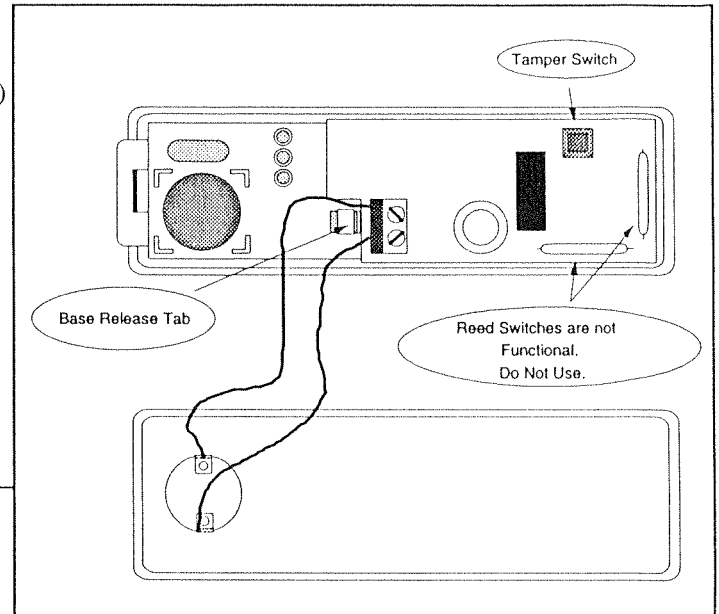

Figure 1. Base release tab location
2. Remove circuit board from transmitter base by pushing back on the base release tab. (See Figure 1.)
2. Trip the device's tamper switch. (See Figure 1.)